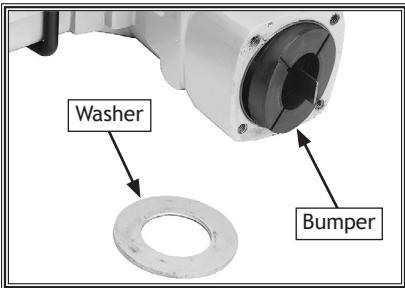

Figure 7. Washer and rubber bumper.
- Carefully slide the base from the stapler body, and remove the large base washer and rubber bumper (see **Figure 7**).